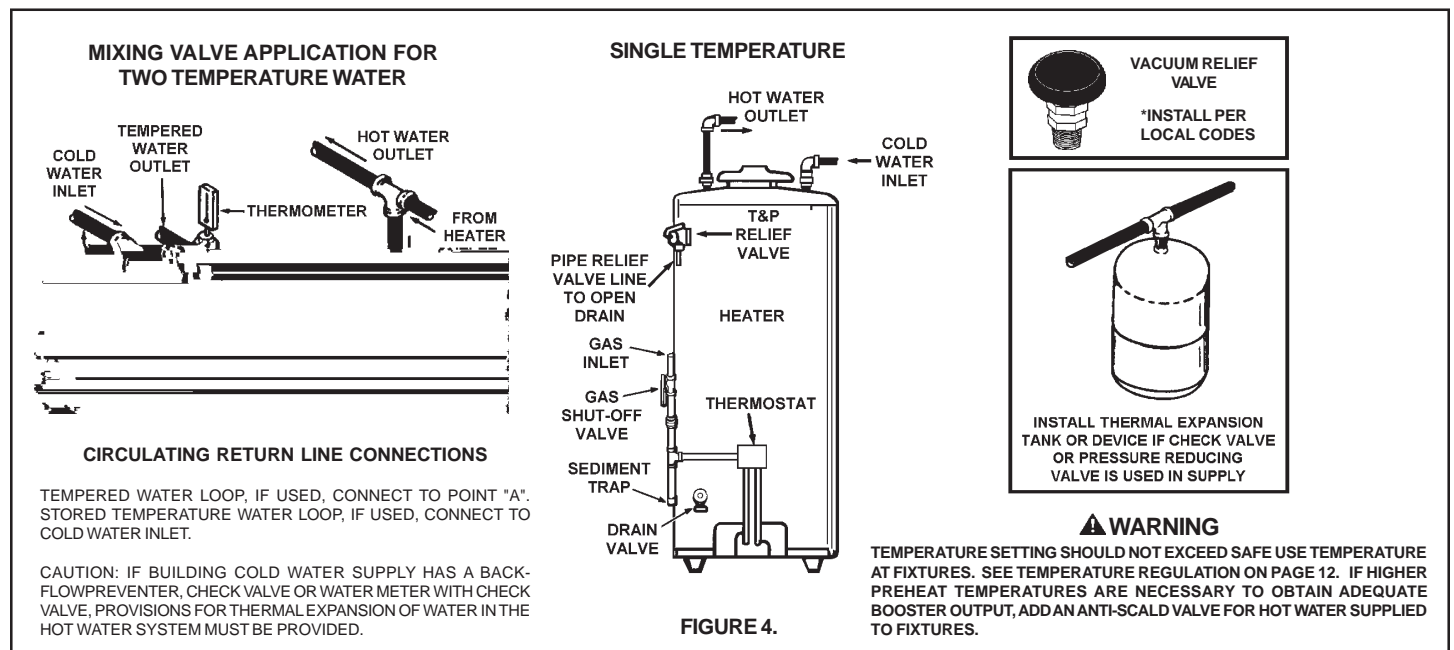

FIGURE 4.
4. When the system requires water for space heating at temperatures higher than required for domestic water purposes, a tempering valve must be installed. see Figure 4.
Thermometers should be obtained and field installed as shown, see Figure 4.